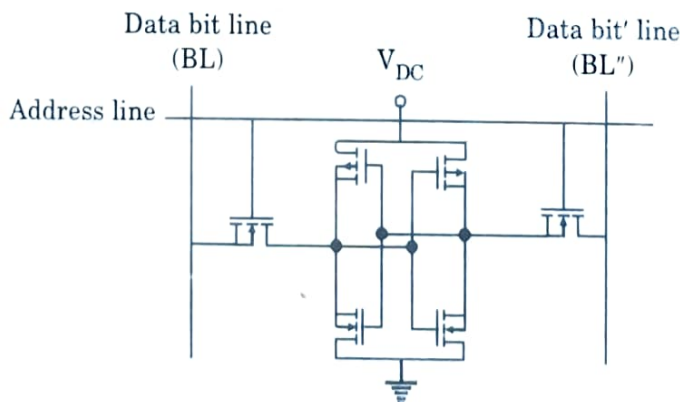

Fig. 4.5.1. SRAM memory cells.
2. The flip-flops consist of six (or four) transistors. The basic block of a SRAM cell is shown in Fig. 4.5.1.